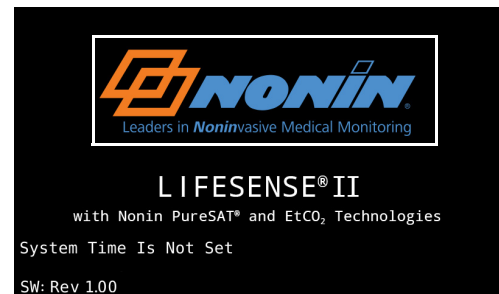

Figure 7. Access Configuration Menu (Nonin Logo)
3. When the Nonin logo start-up screen displays, press the Nonin logo twice (double-tap). In figure 7, the Nonin logo is highlighted with a white box.